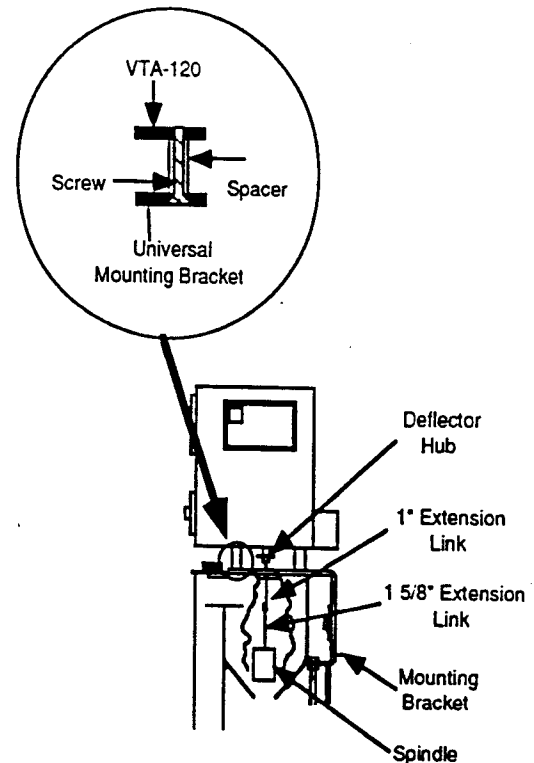

Figure 4: Installing Spacers
- 1) Install 1" extension link onto the eye on viscometer deflector hub as shown in Figure 4 (ref. drawing CE4-005). **THIS PROCEDURE MUST BE ACCOMPLISHED BEFORE PROCEEDING TO ITEM 3 BELOW!!**
- 3) The VTA-120 is mounted on horizontal surface of the mounting bracket, on the four spacers. Four head screws are then inserted through the bracket and spacers into the bottom of the VTA-120 as shown in Figure 4 (ref. drawing #80-1127).
- 4) Attach one end of the 1 5/8" extension link to the spindle and attach the other end to the 1" extension link (ref. Item 1 above and Figure 4).